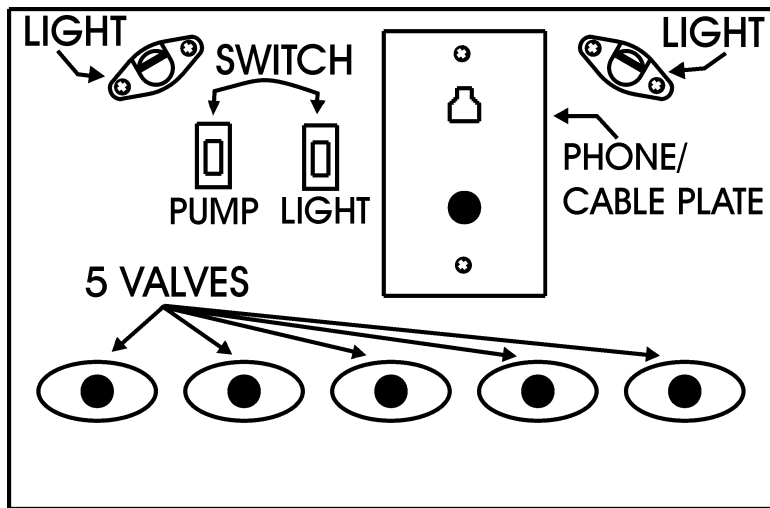

Fig. 4-7
5. Turn the “Water Pump Switch (Fig. 4-7) to the “ON” position and pump all of the chlorine solution into the tank.
9. Turn the “Water Pump Switch” to the “ON” position and allow several seconds for the pump to prime. (Fig. 4-7)
15. Turn the “Water Pump Switch” (Fig. 4-7) to the “ON” position and allow several seconds for the pump to prime.